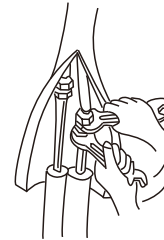

Figure 3
- 5 Screw the nut towards the right centre and tighten it with spanner. (figure 3)